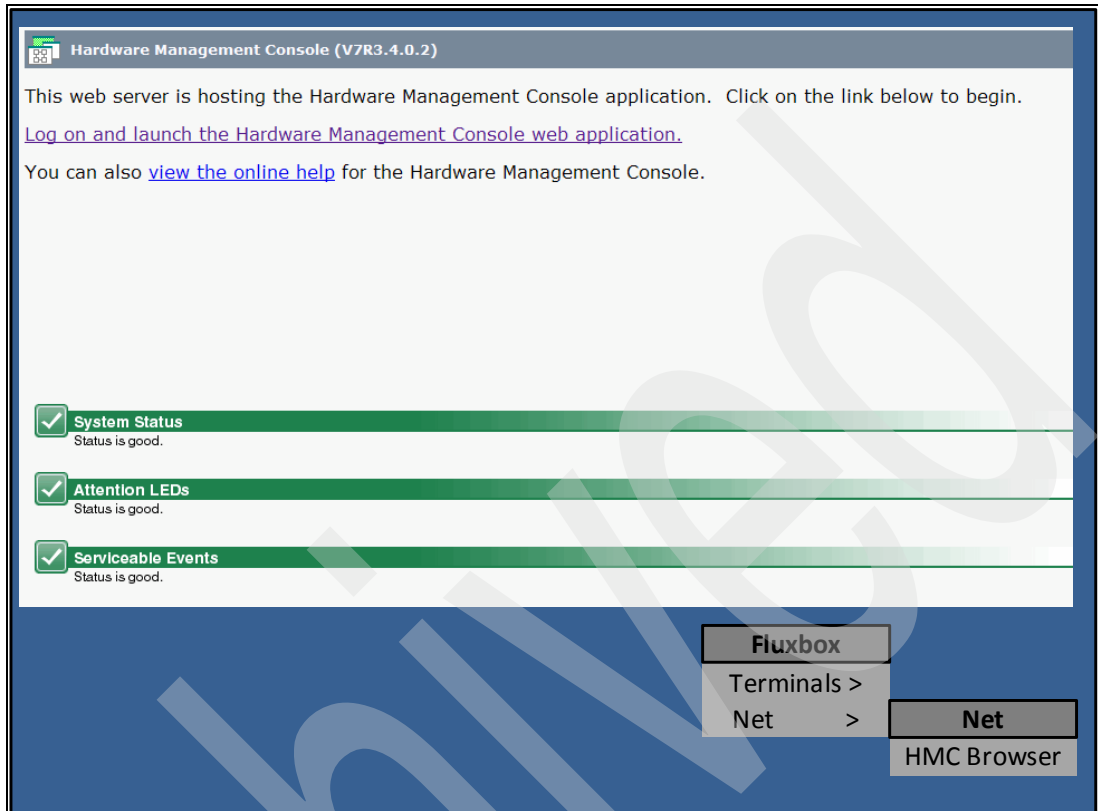

Figure 9-3 DS8700 console welcome window
2. Move the mouse pointer to an empty area of the desktop background. Right-click with the mouse to open a Fluxbox, as shown in Figure 9-3. Select **Net** → **HMC Browser**.